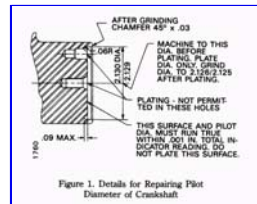

Figure 1. Details for Repairing Pilot Diameter of Crankshaft
- a. After removing the dowel, machine the pilot diameter in the end of the crankshaft to 2.129/2.130 inch as shown in the illustration. See Figure 1. Also, cut the .09 deep x .06R undercut as shown.
e. Chamfer edge of pilot diameter 45 degrees x .03 as shown in Figure 1.